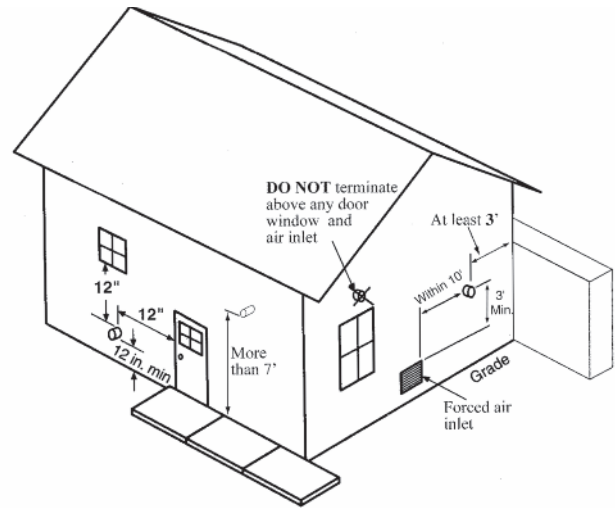

Figure 3: Termination Clearances of Direct Vent System
6. The vent termination must also maintain the following clearances (shown in Fig. 3):
6. The vent termination must also maintain the following clearances, as shown in Fig. 3 on page 10:
- h. A minimum of 12" [30.5 cm] horizontal spacing from other fan assisted appliance vents, see Fig. 3 on page 10.